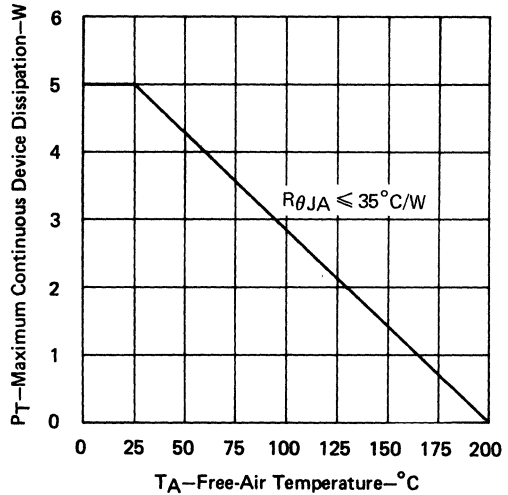

FIGURE 2
3. Derate linearly to 200°C free-air temperature at the rate of 28.6 mW/°C or refer to Dissipation Derating Curve, Figure 2.